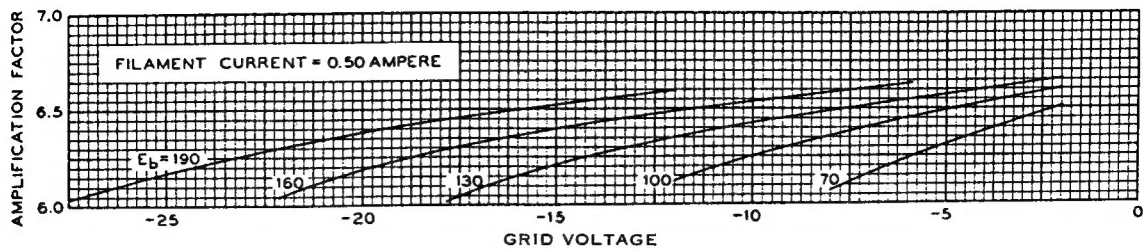
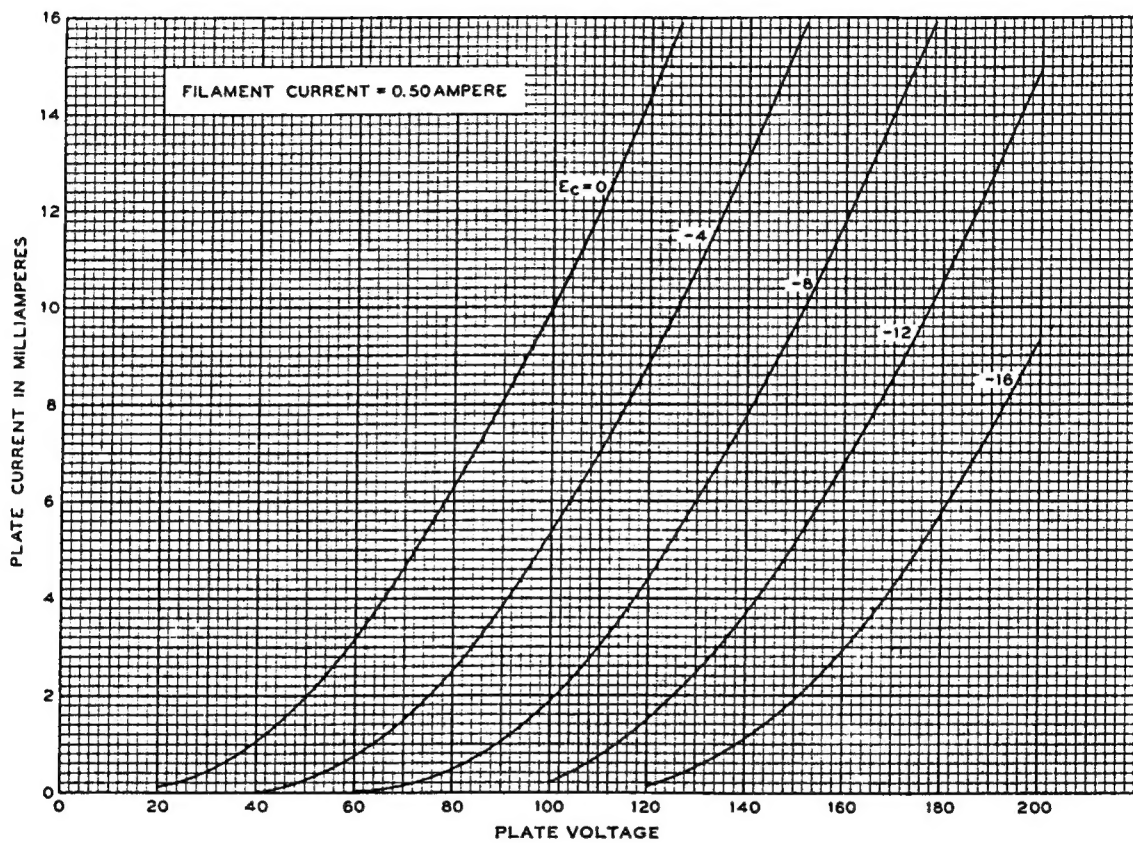

FIG. 4
FIG. 7
**Characteristics**—Grid-plate characteristics of a typical 101F tube are shown in Figure 3 for several values of plate voltage. The grid and plate voltages are measured from the negative end of the filament. Corresponding amplification-factor, plate-resistance, and transconductance characteristics are shown in Figures 4, 5 and 6, respectively, as functions of grid voltage. Plate characteristics are given in Figure 7 for several values of grid bias.